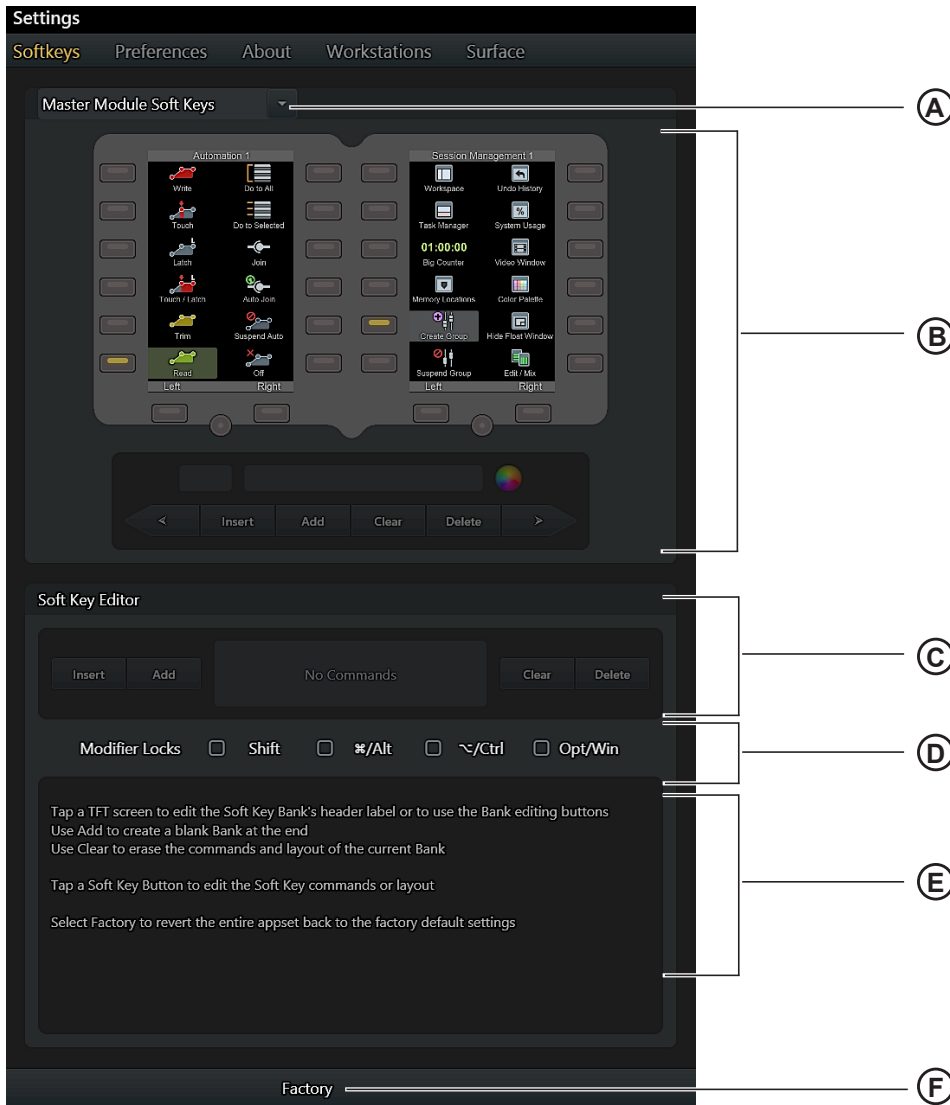

Figure 26. Soft Key Editor default screen
- 3 Use the Help Text instructions at the bottom of the default Soft Key Editor page (see Figure 26 on page 44).